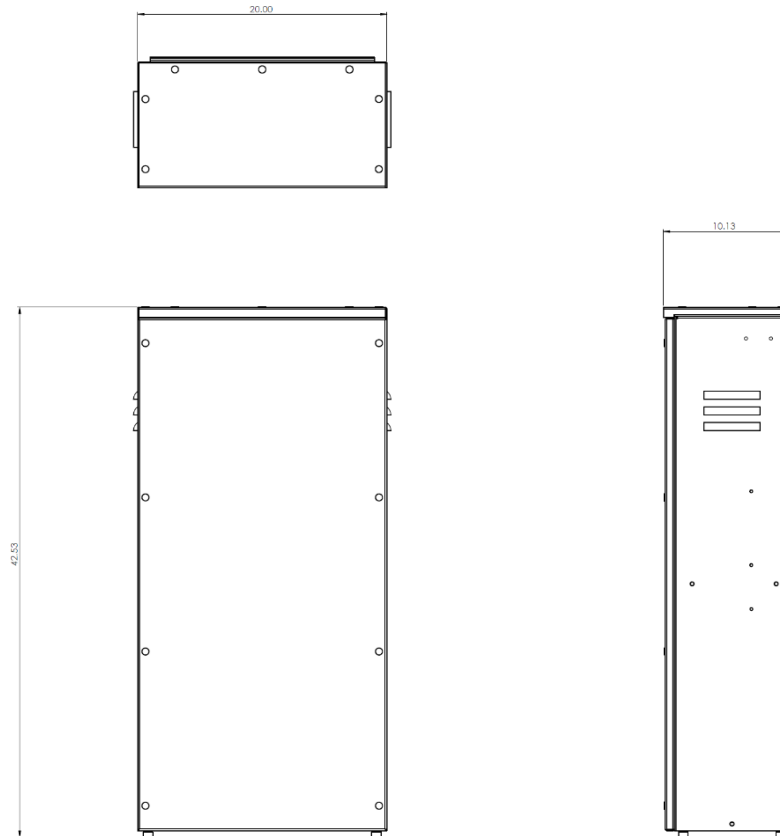

Figure 8
The NV24 Optional Battery Cabinet has four (4) conduit landing locations identified by 1/4" diameter indentations in the top right side and top left side of the enclosure (refer to Figure 8). It is the responsibility of the installer to determine the best location to punch for conduit knockouts.